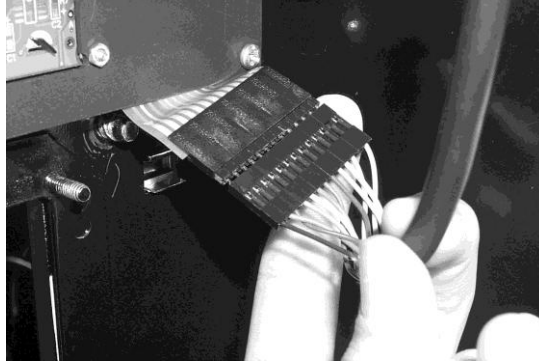

Figure 18.
13. Insert the male conversion header (part# 14-0388-00) into the end of the Retrofit Keypad 2 cable (part # 11-1700-03). This header will be used to plug into the keypad tail. **Pin 12 is keyed. Notice on the keypad tail, pin 1 is marked with a triangle.** The other end will plug into J10 of the VMC. See Figure 18.